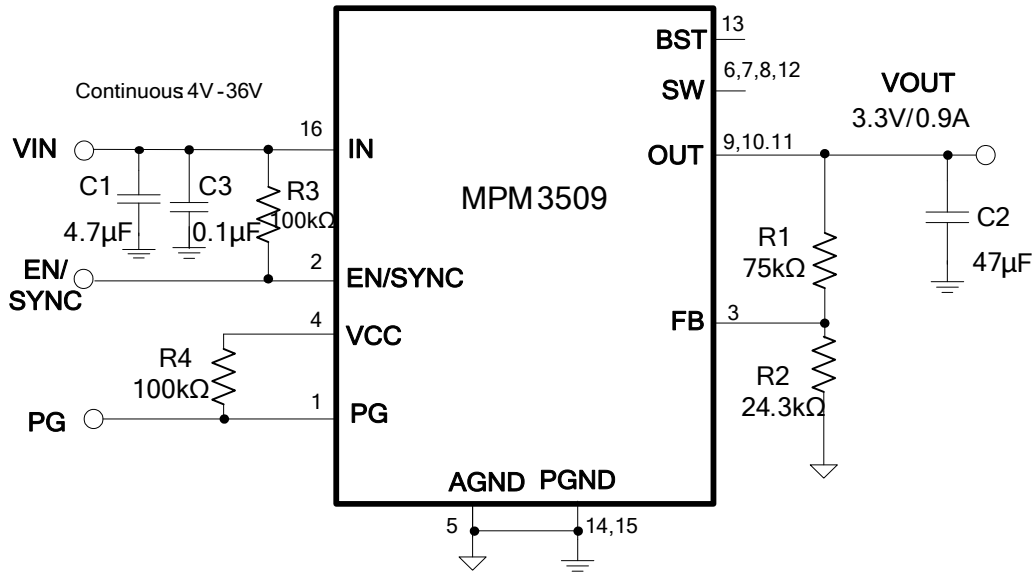

Figure 8:  $V_{OUT} = 3.3V$ ,  $I_{OUT} = 0.9A$
7) The recommended layout is based on Figure 8.